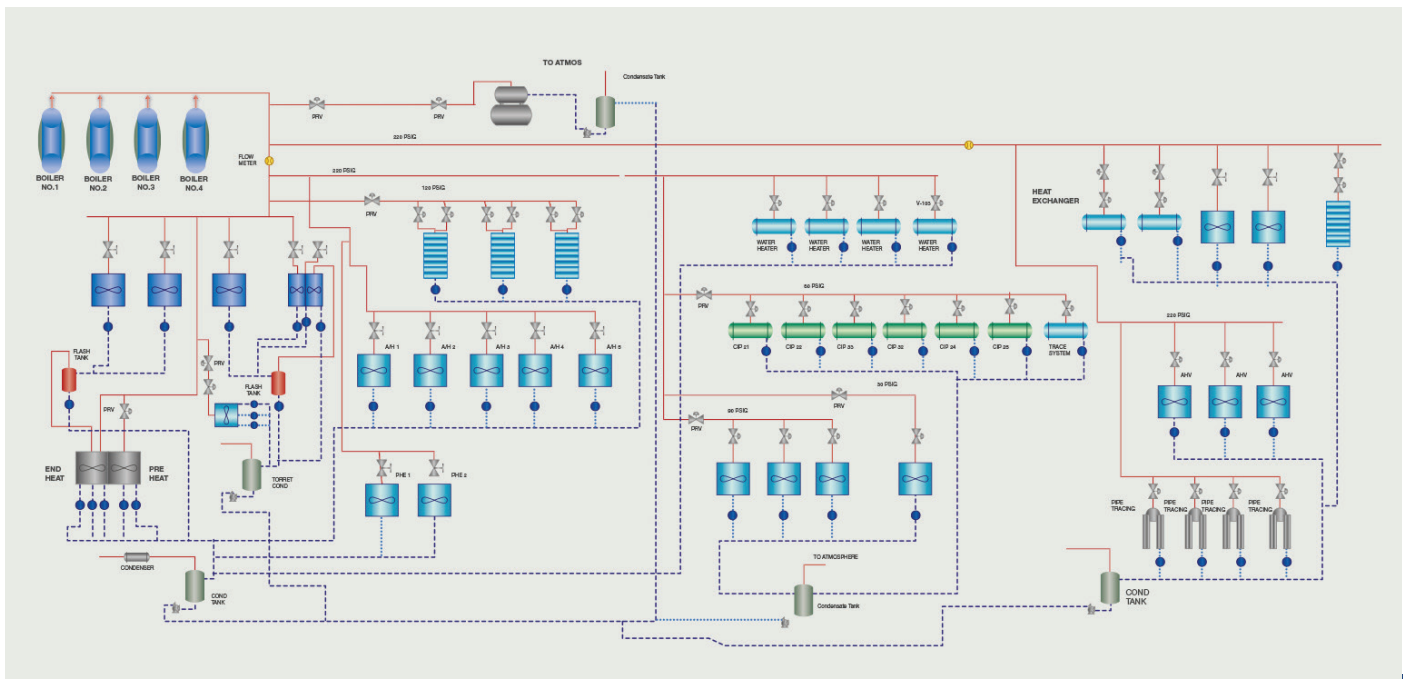

Figure 4. Steam Balance in Microsoft Visio
**Figure 4** demonstrates different methods to recover the condensate under pressure, thus saving energy and reducing emissions for the plant operation. Switching from a low-pressure deaerator to high-pressure deaerator with condensate line changes allowed the return of condensate from nonmodulating processes to the high-pressure deaerator, resulting in higher steam system cycle efficiency.